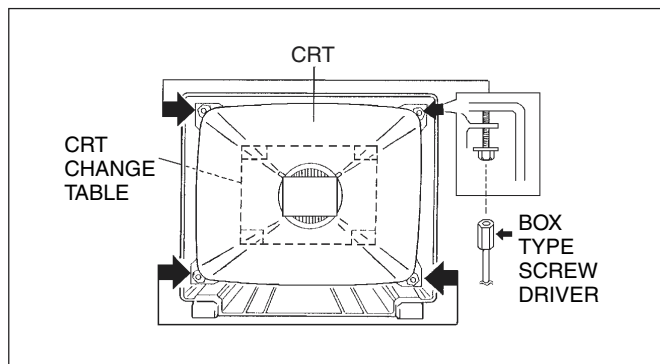

Fig. 3
- 2. While keeping the surface of CRT down, mount the TV set on the CRT change table balanced well as shown in Fig. 3.
- 3. Remove 4 screws marked by arrows with a box type screwdriver as shown in Fig. 3.